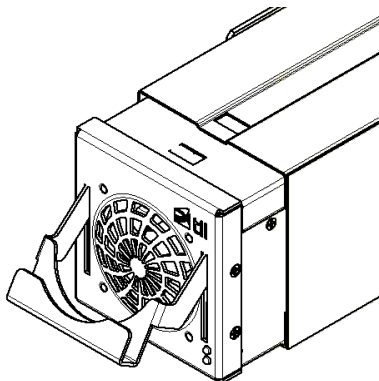

Figure 5
5. Lift the handle before fully engaging Module into the FMPS-SM cavity (Fig. 5).